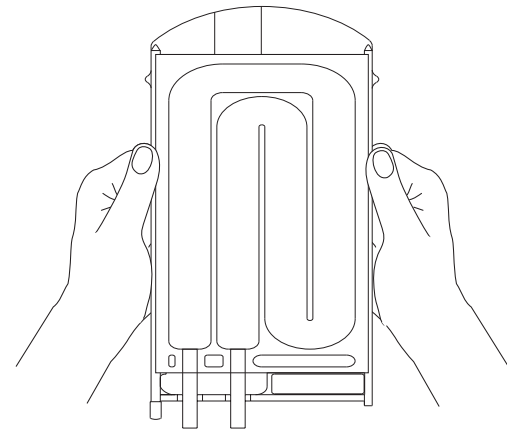

Figure 4—Inserting the cassette
- 1 Grasp each rail (see figure 4). Insert the front end of the cassette into the front of the warming unit, with the blue guide rail facing down. Align the rails to each of the slotted openings.